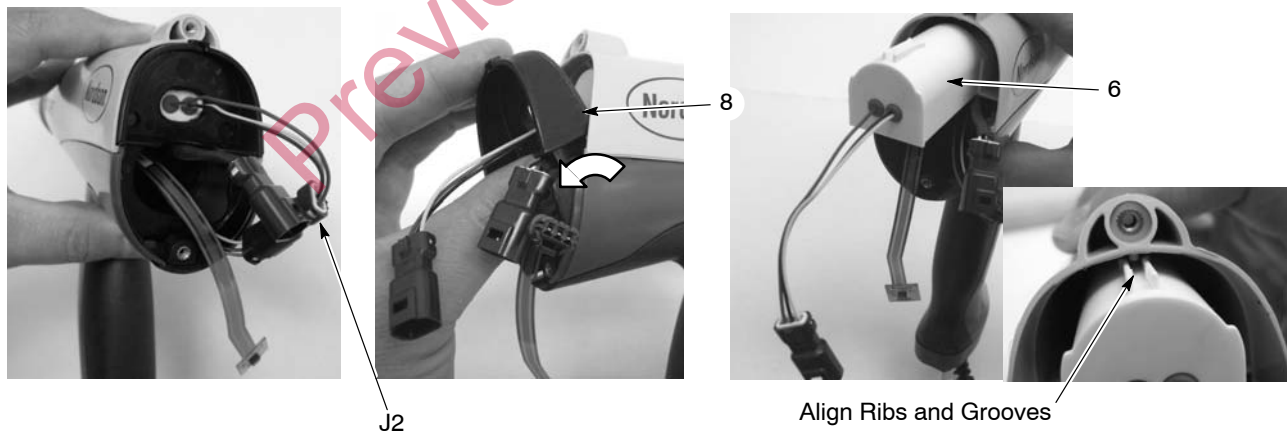

Figure 5-2 Power Supply Replacement
2. See Figure 5-2. Insert a small screwdriver into the recess in the J2 gun cable/power supply connectors to release the catch and disconnect the connectors.
3. Pull on the top of the bulkhead (8) to remove it from the gun.
4. Slide the power supply (6) out of the gun body and pull the power supply leads and connector out of the bulkhead.
11. See Figure 5-2. If you removed the power supply, slide it into the upper cavity of the gun body, making sure the guide ribs inside the gun body slide between the grooves on the power supply.